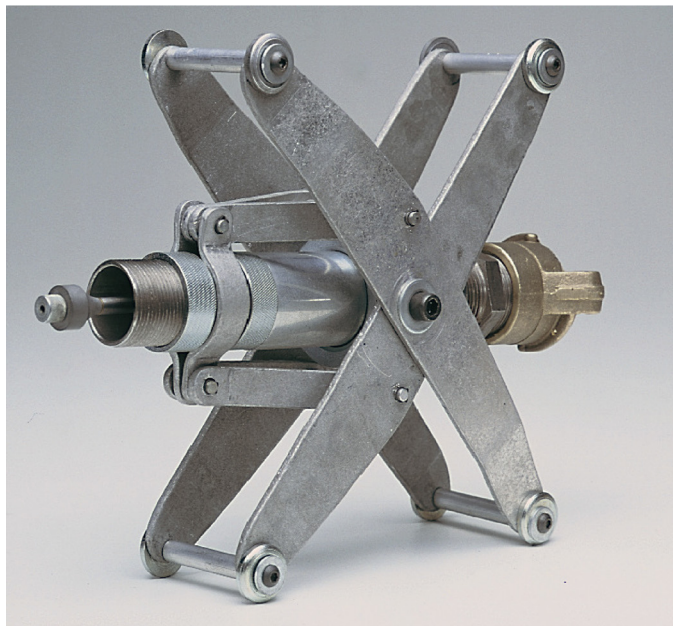

Figure 3
- 3) Mount the ConeBlast™ in the centering carriage as shown in Figure 3. Take care not to install it backwards. The socket head set screw in the collar tightens into the groove in the tool holder.